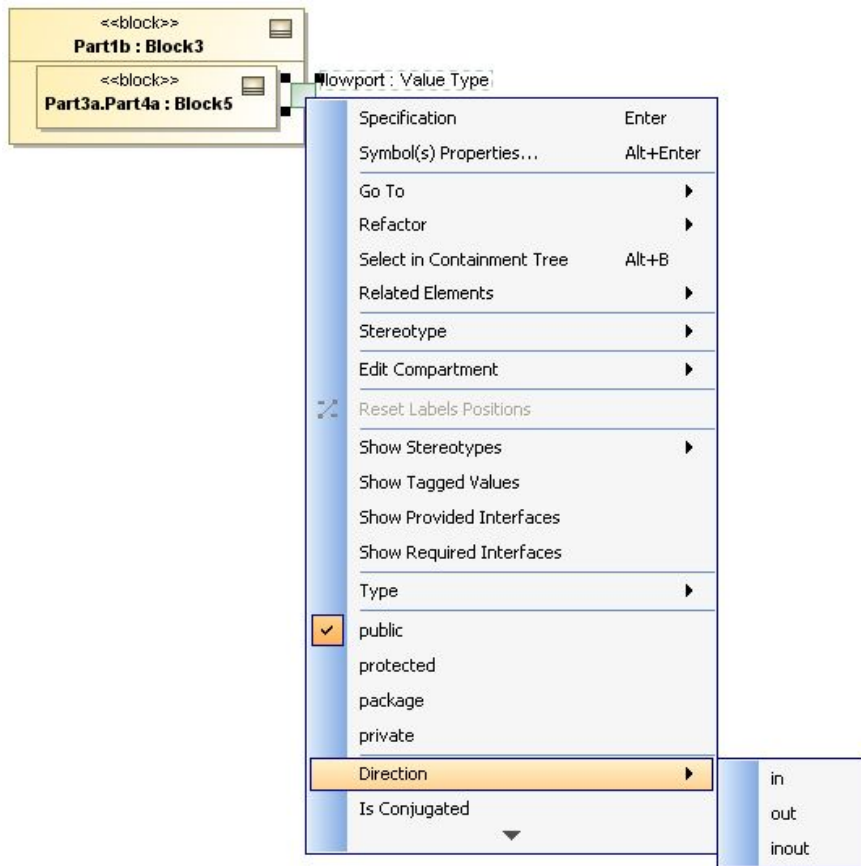

Figure 107 -- Flow Port Shortcut Menu - Flow Port Direction
4. You can change its direction using the port shortcut menu (Figure 107). Note that, without a direction, the flow port will be just like a normal port (it will not enforce any direction on the item(s) flowing in/out of the port).